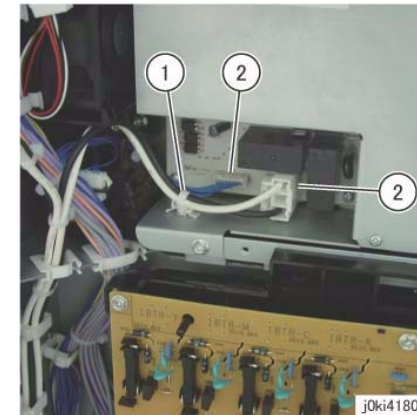

Figure 1 Disconnect the connector of the IH Driver PWB
3. Disconnect the connector of the IH Driver PWB. (Figure 1)